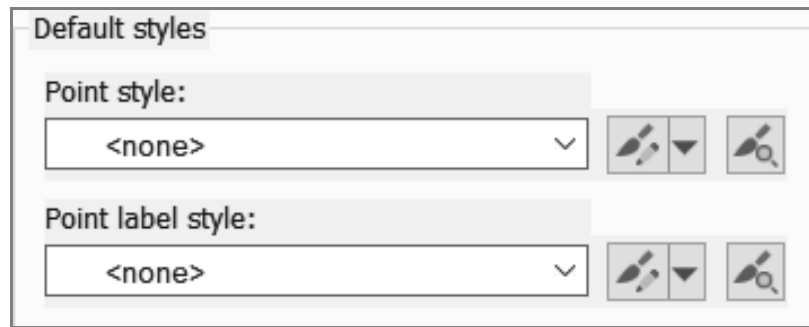

Figure 2–56
4. Select **<none>** for both the *Point style* and the *Point label style*, as shown in Figure 2–56.